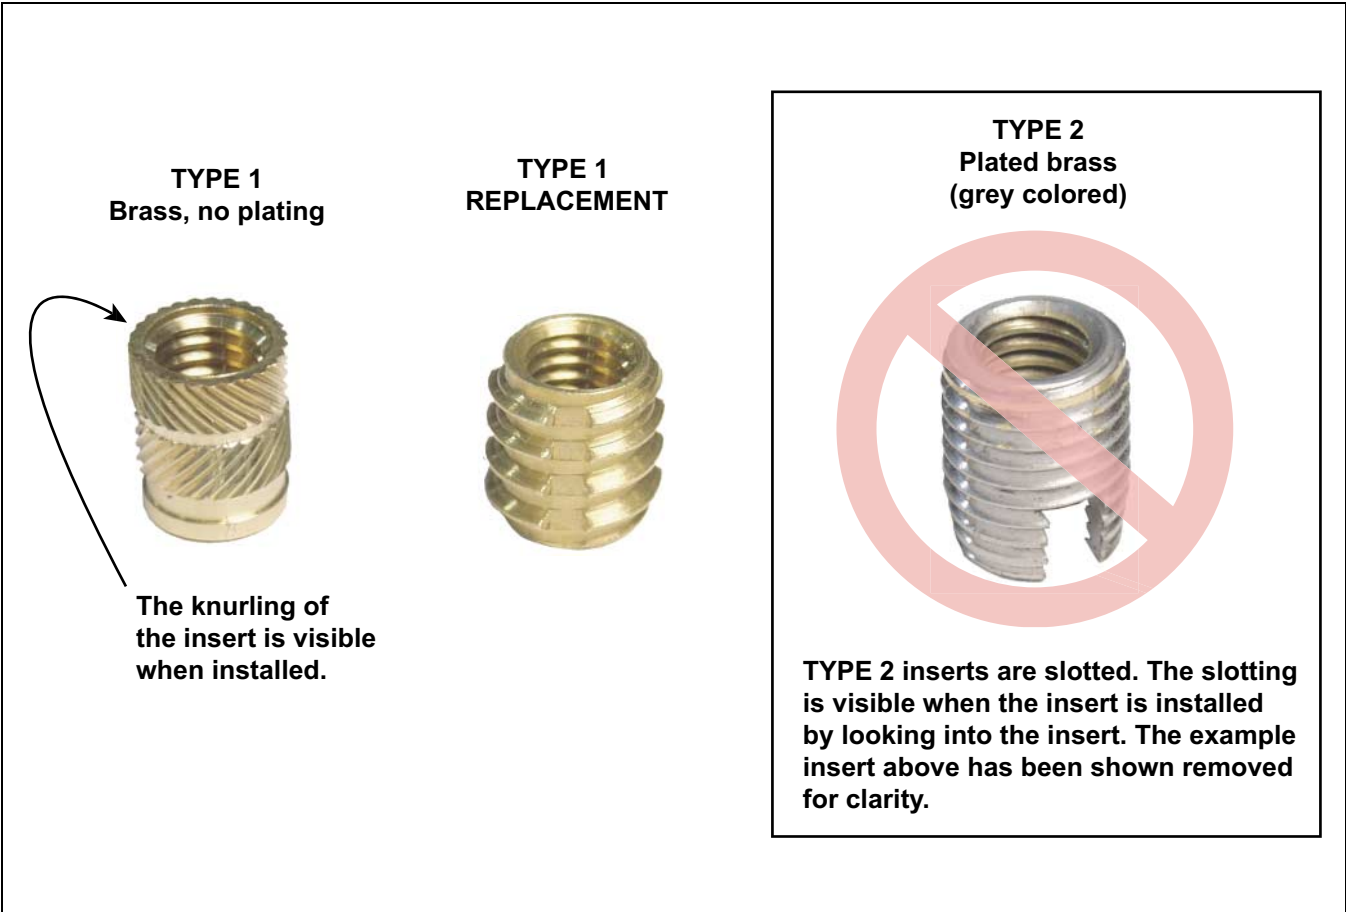

Fig. 2. Insert identification
Identify the insert type before starting (Fig. 2.).
1. Identify the type of insert installed in the seat pan (Fig. 2.). If the insert is TYPE 2 discontinue this procedure. TYPE 2 inserts should not be removed. If insert TYPE 1 is installed go to the next step.